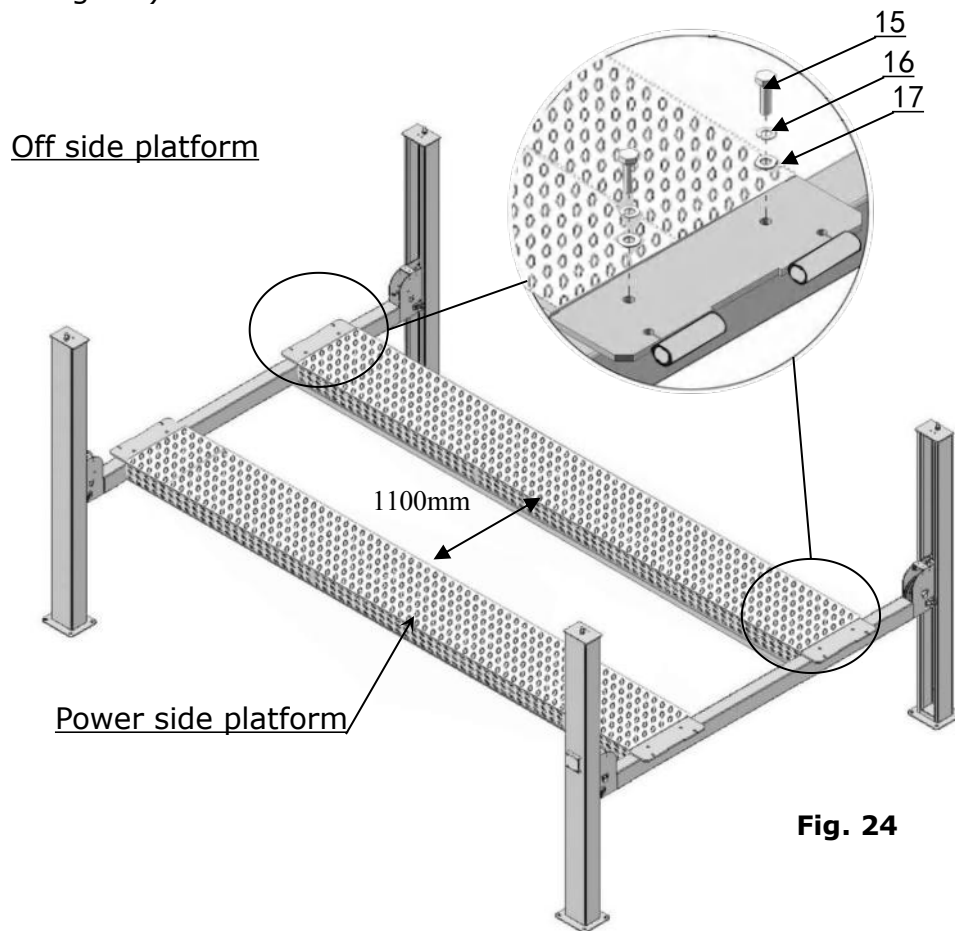

Fig. 24
1. In the same way, place the off side platform on cross beams, align the holes and tighten with bolts (See Fig. 24).